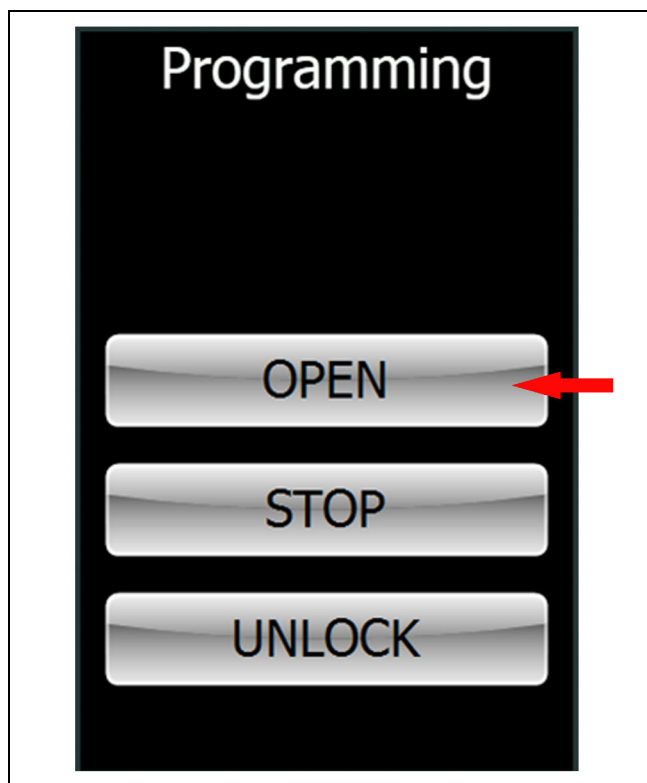

Figure 46
2. Press the "OPEN" button on the wall switch. The panel will start to move. If the door is moving to the open position, the polarity is correct. Let the panel move 24" and then press "UNLOCK" on the wall switch. The door will stop. See Figure 46.